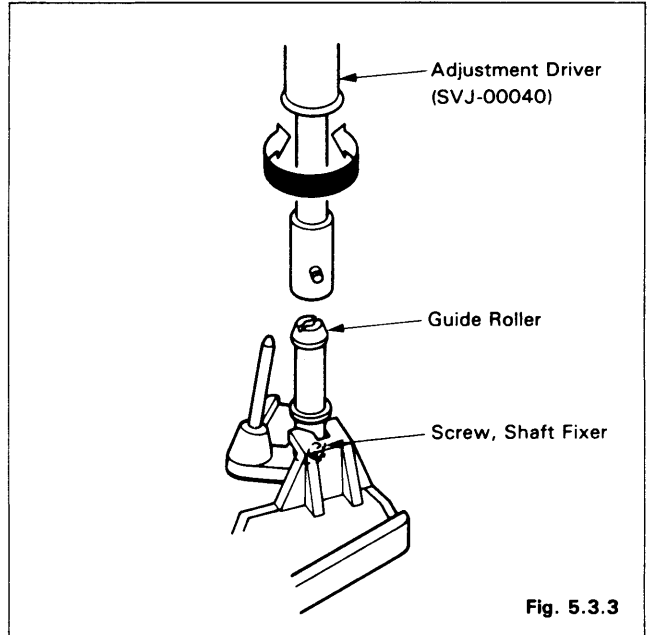

Fig. 5.3.3
3. The starting portion of the waveform can be adjusted by adjusting the supply side guide roller height. (Refer to Fig. 5.3.3)
5. Adjust the end portion of the waveform by adjusting the take-up side guide roller height, so that the waveform as shown in Fig. 5.3.3 is obtained.